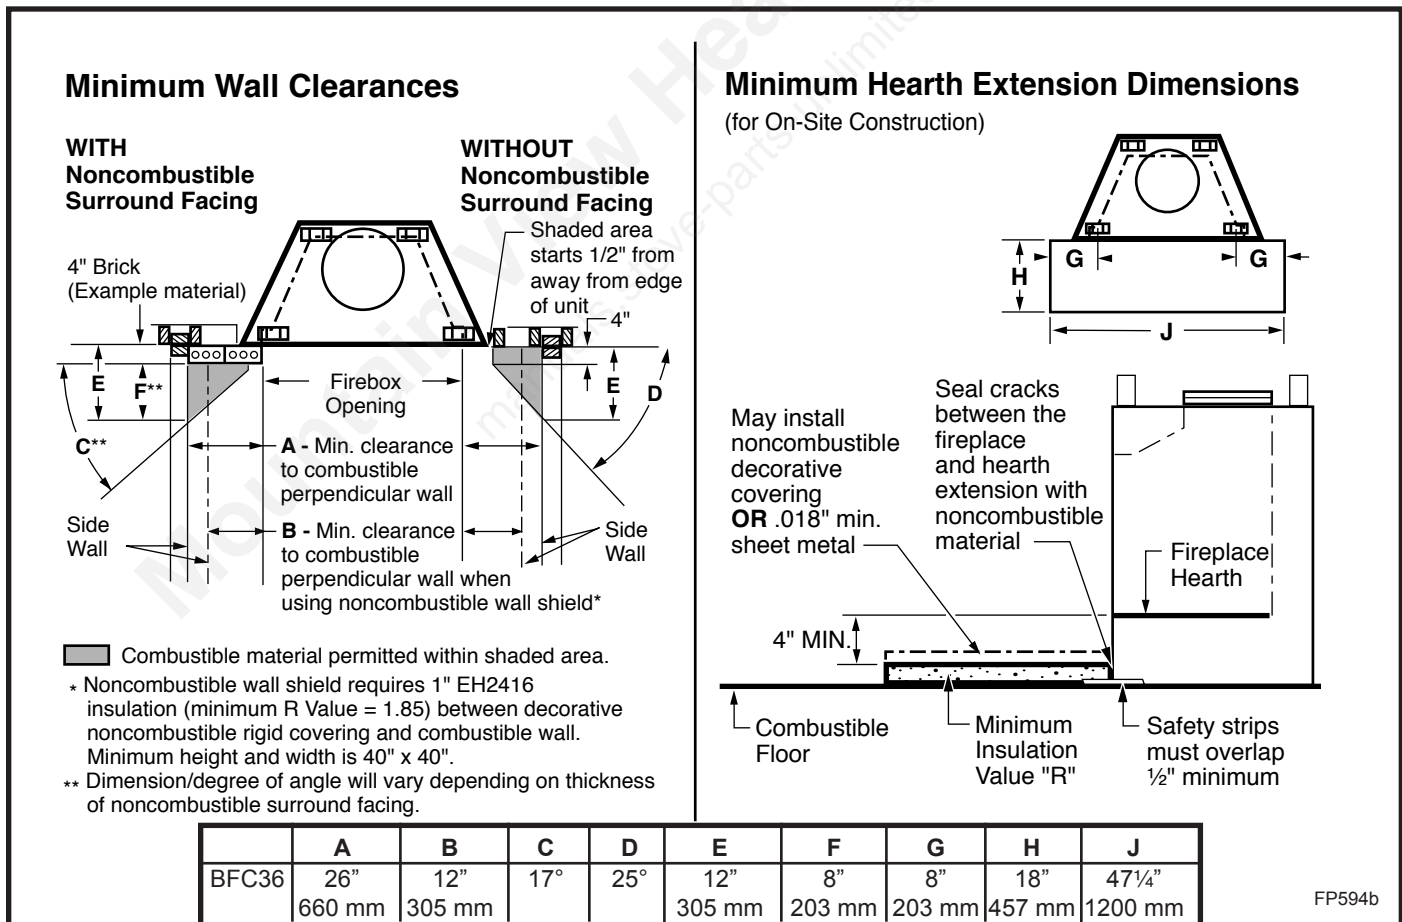

Fig. 21 Combustible side wall protection and hearth extension dimensions.
A hearth extension is required to protect a combustible floor in front of the fireplace. Refer to Figure 21 for minimum dimensions and mounting detail.
The hearth extension described in Figure 21 must be a durable non-combustible material with a minimum (total) Rt value of 1.09; refer to Figure 22 for examples. The overall height (above a combustible floor), depth and width must be as indicated, with the extension centered to the fireplace opening.
The top of insulation must be covered with a non-combustible decorative covering or a piece of .018" minimum sheet metal, to protect hearth extension material. (Fig. 21)
Secure the hearth extension to the floor to prevent shifting, using trim molding or other similar means at three (3) outer edges. Seal crack between the fireplace hearth and hearth extension with a non-combustible material. (Figs. 21 and 23)